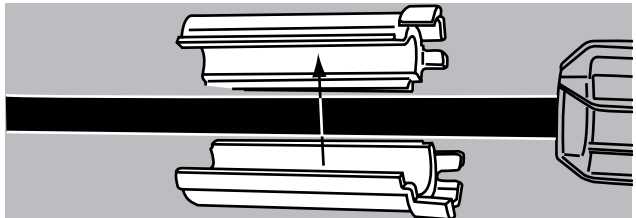

FIGURE 20
20. Fit the split Tightening Assistant around the cable and lock both halves together. (Figure 20)